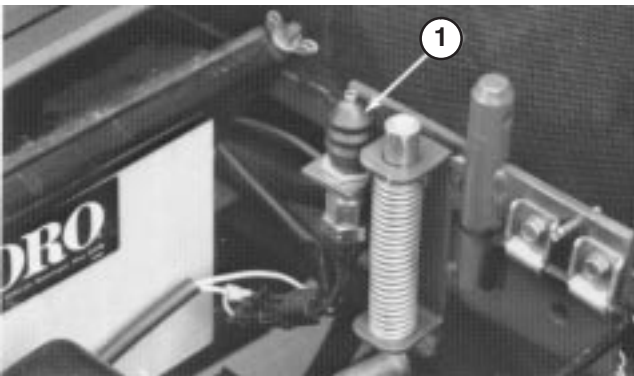

Figure 31
3. Remove boot from button end of seat switch (Fig. 31). Retain boot for reinstallation. Separate switch wire connectors.